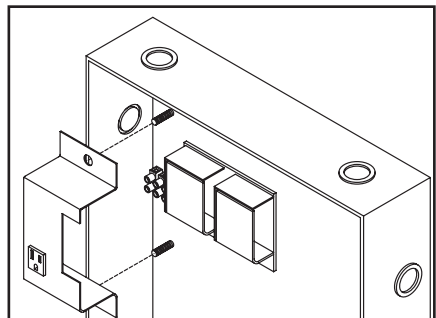

Fig. 2– 10-5 Power Supply Circuit Board
4. Set DC output voltage selector switch to desired voltage PRIOR TO CONNECTING BATTERY AND ENERGIZING AC INPUT VOLTAGE (See Fig. 2).